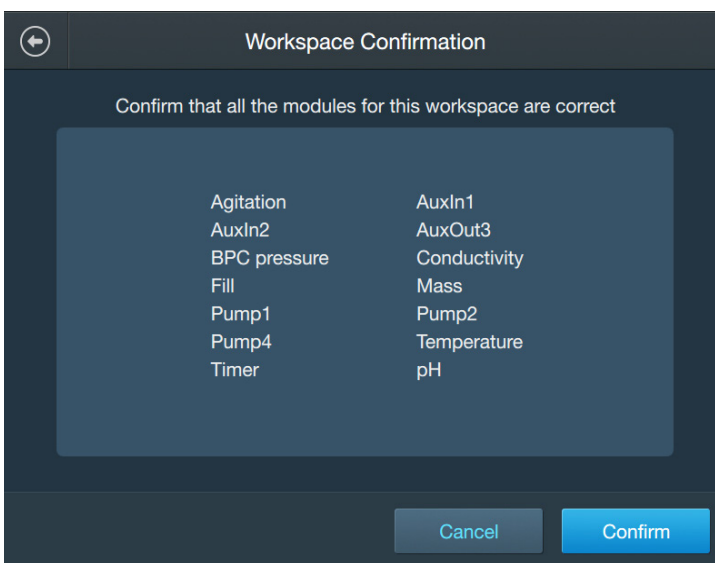

Figure 3.15. Home Screen Confirmation screen.
- The Home Screen Confirmation screen that appears displays the pumps/auxiliary outputs and modules you have selected (Figure 3.15). Touch **Confirm** to add them to your Home screen. The next screen that appears will look similar, but it will list the modules that have been added to the Home screen. Touch **Open Home Screen**.